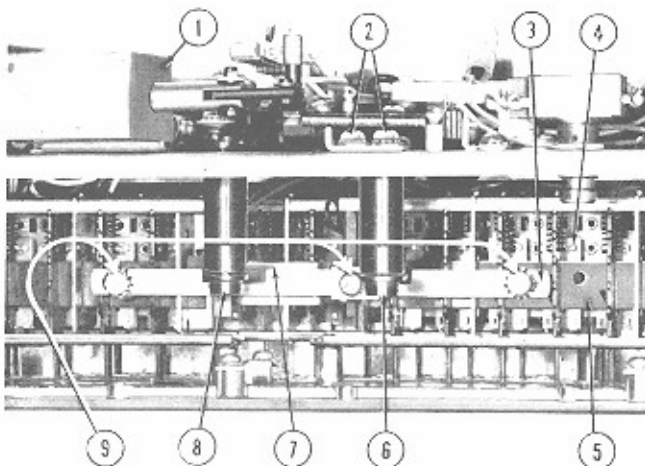

Fig. 38. SELECTOR SWITCH ADJUSTMENTS
Selector Switch Assembly, Figs. 38 and 39.
a. It is essential that both the letter and number button switches, as well as their latch bars, operate without any friction, from maximum depressed position to complete retracted position. Their respective latch bars (Items 5 and 7, Fig. 38) must engage freely with all of the switch "push rods" and retract freely when the switch "push rods" are fully retracted. The two letter switch latch bars are linked together by item 3 and coupled to the "shaft, link and lever assembly" (Item 6) with an adjustable plate and the adjustment screws shown in item 9. The adjustment of these links should provide accurate synchronization of the two latch bars and minimum play, consistent with freedom of operation, between button action and latching action. The latch bar of the number switch is coupled directly to its "shaft, link, and lever assembly", item 8. There should also be a minimum of play consistent with freedom of operation, between the number buttons and the number latch.